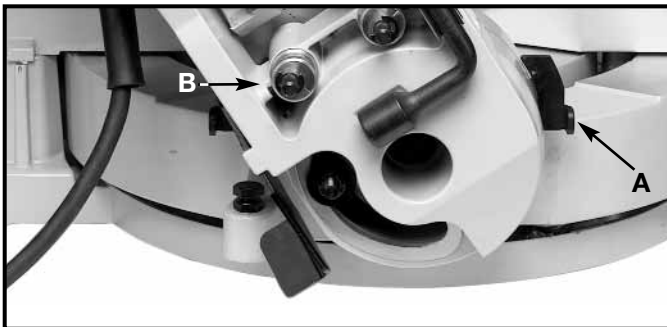
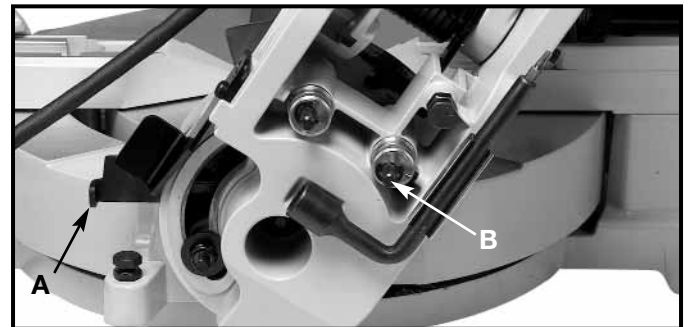

Fig. 25
Fig. 26
3. Tilt the cuttinghead left or right as desired until it stops on plate (A) Fig. 23. **NOTE:** Shown from the rear, Fig. 25 illustrates the sliding plate positioned for 33.9° right and Fig. 26 illustrates the sliding plate positioned for 33.9° left.